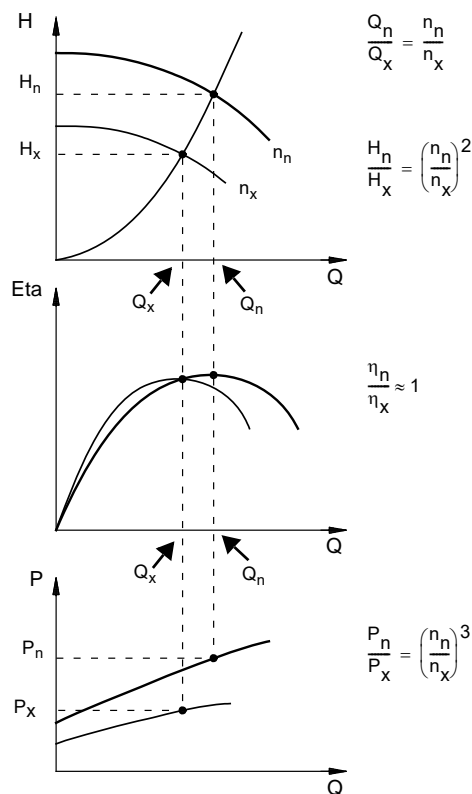

Fig. 44 Affinity equations
In situations where it is not possible to select a duty point close to the 100 % curve, use the affinity equations below. The head (H), the flow rate (Q) and the input power (P) are all the appropriate variables for the motor speed (n). See fig. 44.